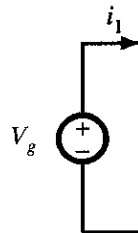

Fig. 5.23.
- 5.5 DCM mode boundary analysis of the Cuk converter of Fig. 5.23. The capacitor voltage ripples are small.
- 5.6 DCM conversion ratio analysis of the Cuk converter of Fig. 5.23.